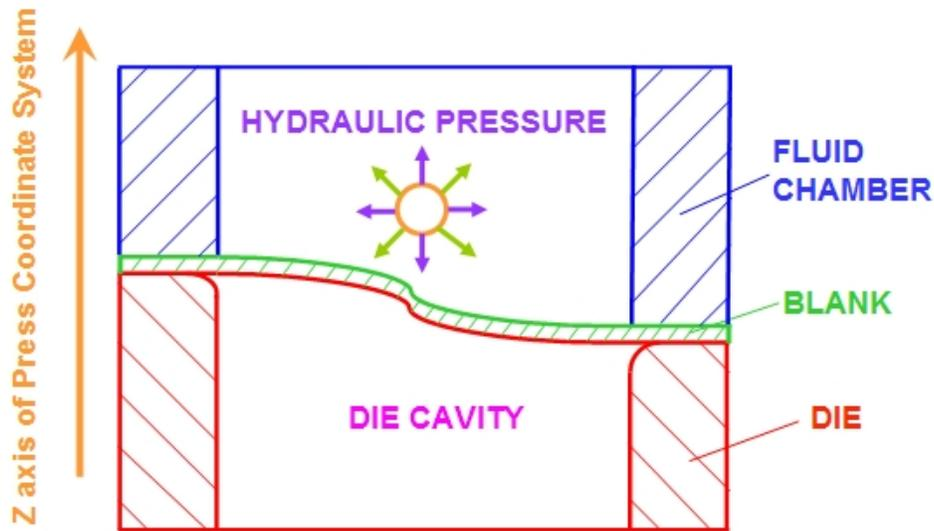

Figure 8.2.94 Fluid pressure is applied on top of blank
**ABOVE:** In press coordinate system, fluid pressure is applied on the top of blank illustrated in Figure 8.2.94.